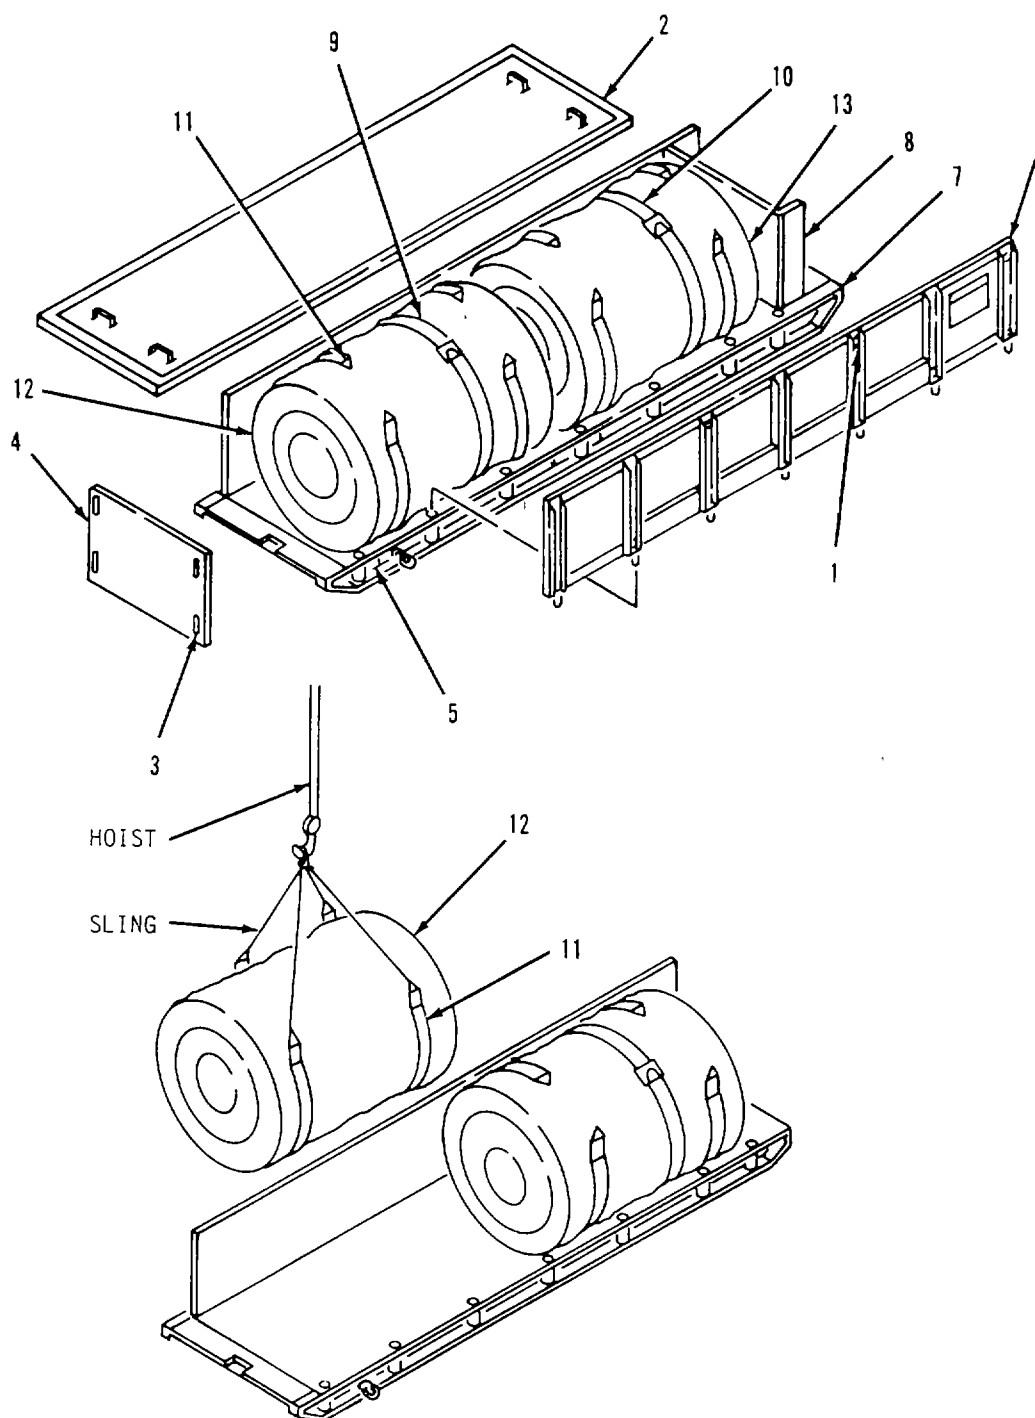

Figure 4-1. Unpacking 50K Water Tank Chest
- b. Unpacking 50K Water Tank Chests. Refer to figure 4-1.